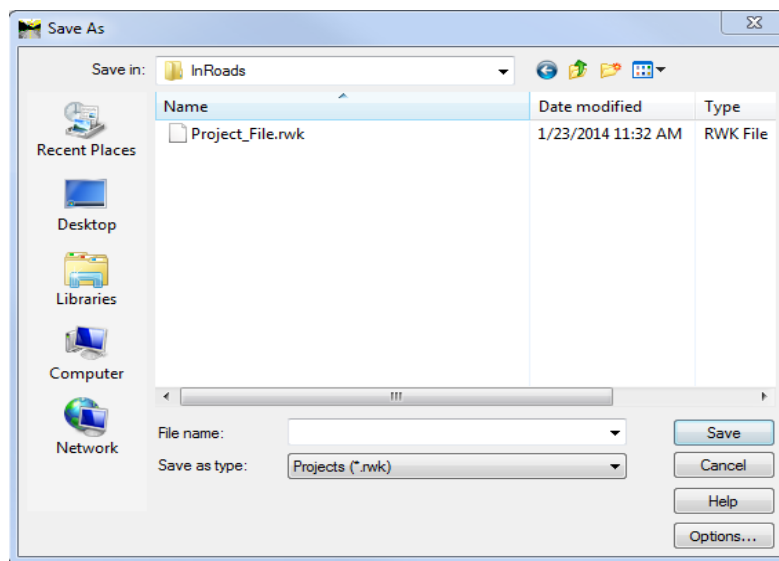

Figure 1-9 InRoads Save As Projects Dialog Box
- N. On the Save As dialog box (Figure 1-9) data point in the File name field and type in the name of the file, for this lab type in **Project_File**. Click the **Save** button and then click **Cancel**.